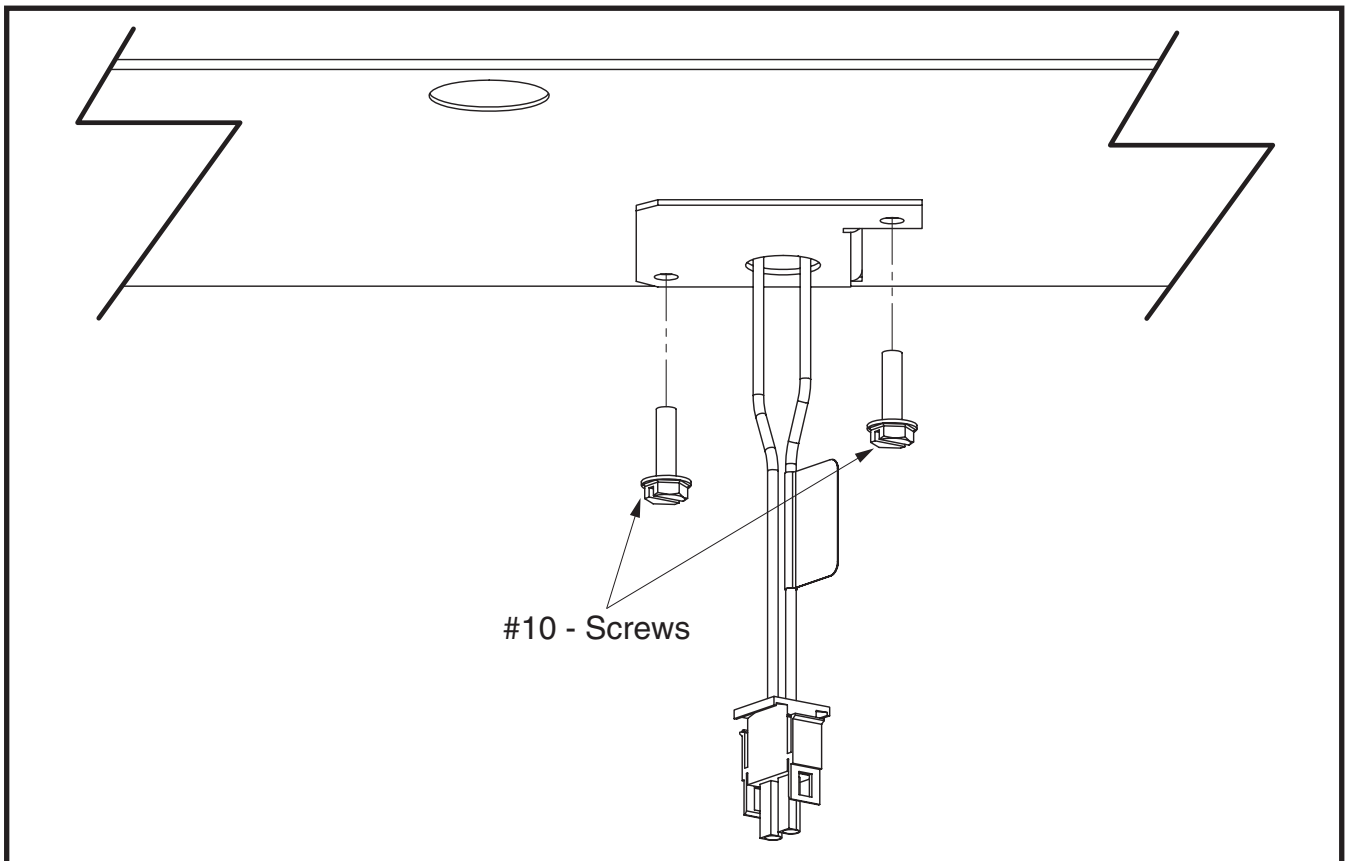

Figure 4. Secure the Assembly to the Burner Box
4. Using the 2 #10 screws from the removal step, secure the assembly to the burner box. See Figure 4.